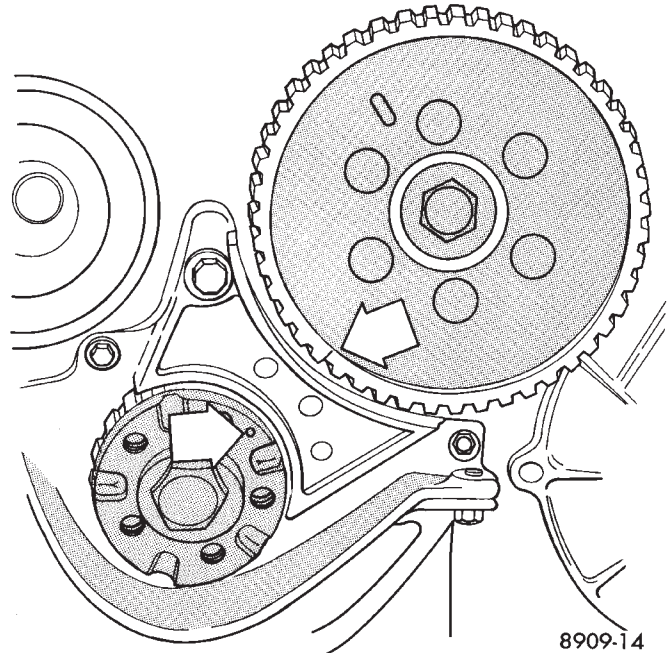

Fig. 6 Crankshaft and Intermediate Shaft Timing
- (1) Apply Mopar Gasket Maker to pump body-to-block interface (machined surface).
- (2) Lubricate oil pump rotor & shaft and drive gear.
- (3) Turn crankshaft and intermediate shaft until markings on sprockets are in line (arrows Fig. 6).